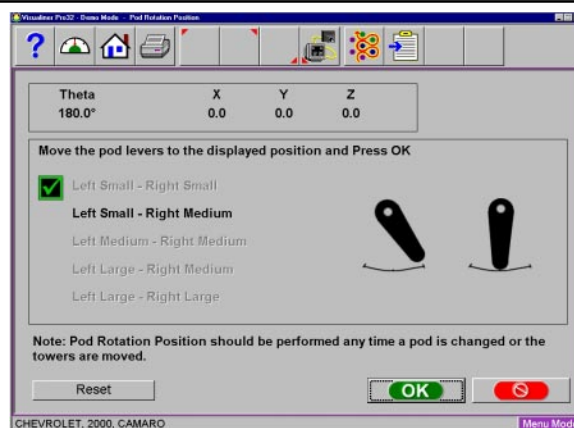

Figure 5-18
3. After clicking on “Ok” as indicated in step 2, the camera rotation levers change positions. Move the camera levers to the position shown and click on **<OK>**. (Figure 5-18)